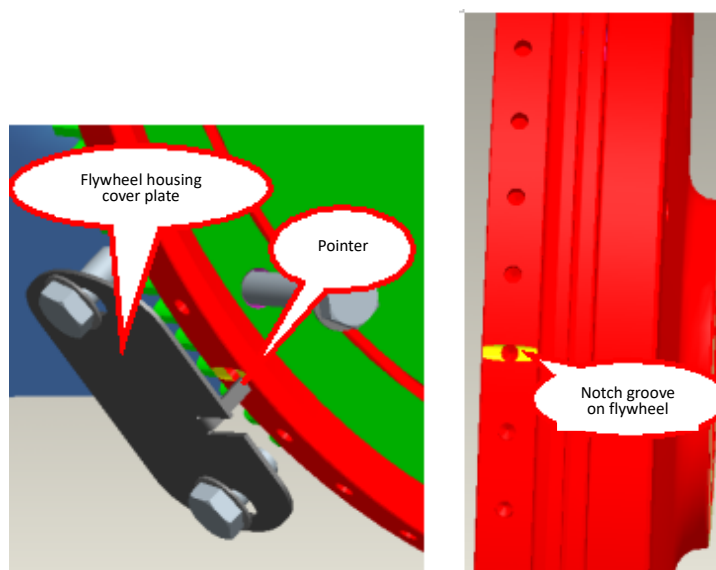

Figure 2-9
- (1) With the diesel engine in cold state, turn the flywheel with a bar (following the running direction of diesel engine crankshaft) to make the No. 1 cylinder and No. 6 cylinder to TDC, when the notch groove on flywheel should be aligned with the pointer on the flywheel housing cover plate. As shown in figure 2-9.